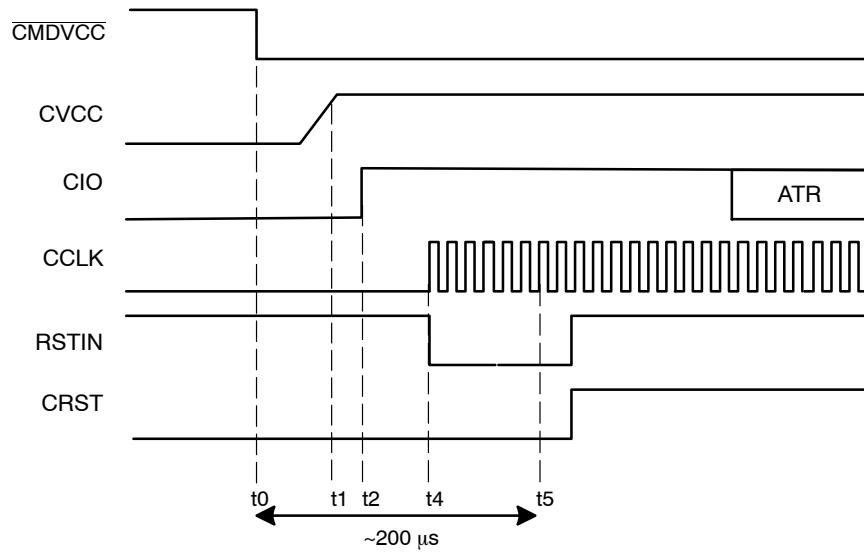

Figure 5. Activation Sequence – RSTIN Mode (RSTIN Starting High)
The clock can also be applied to the card using a **RSTIN mode** allowing controlling the clock starting by setting RSTIN Low (Figure 5). Before running the activation sequence, that is before setting Low $\overline{\text{CMDVCC}}$ RSTIN is set High. The following sequence is applied:
- Between t2 (Figure 5) and t5 = 200 μs, RSTIN is reset to LOW and CCLK will start precisely at this moment allowing a precise count of clock cycles before toggling CRST Low to High for ATR (Answer To Reset) request.